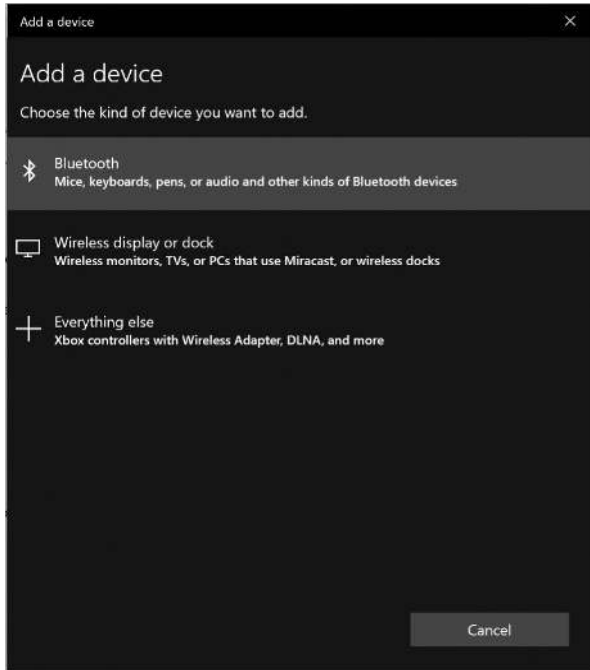

Figure 16. Choose Bluetooth Device Type
3. The **Add a device** window opens (see Figure 16). Select **Bluetooth**.